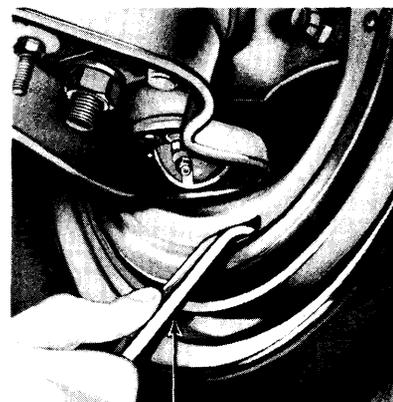

FIG. 10—Expanding Brake Shoes
2. Remove the adjusting hole cover from the carrier plate and, from the carrier plate side, turn the adjusting screw upward to expand the shoes (Fig. 10). Expand the shoes until a slight drag is felt when the drum is rotated.